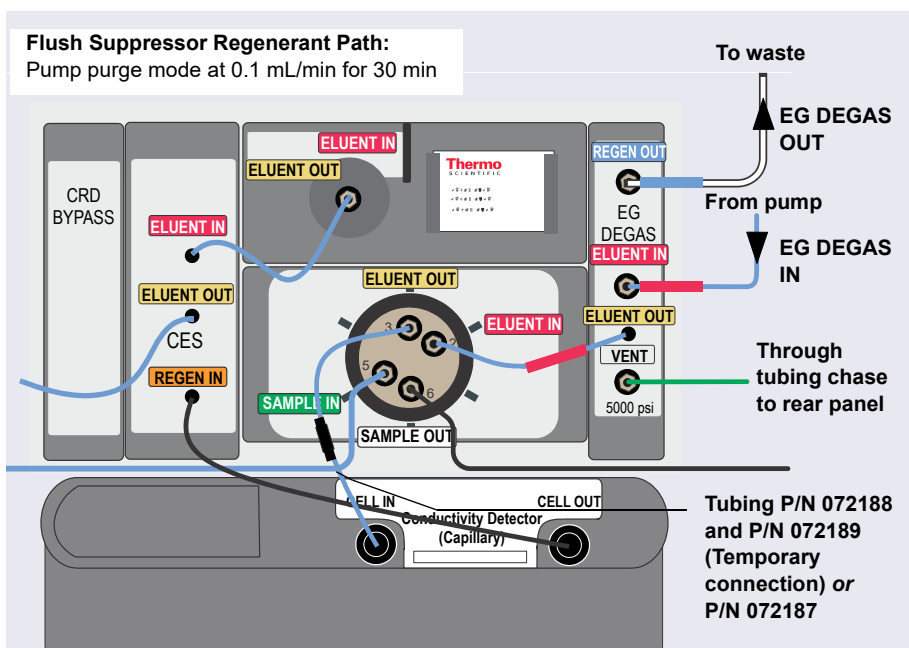

Figure 10-46. Flow Schematic for Filling and Flushing the Regenerant Path in a Capillary Suppressor
- Connect the pump to the regenerant path as shown in Figure 10-46.